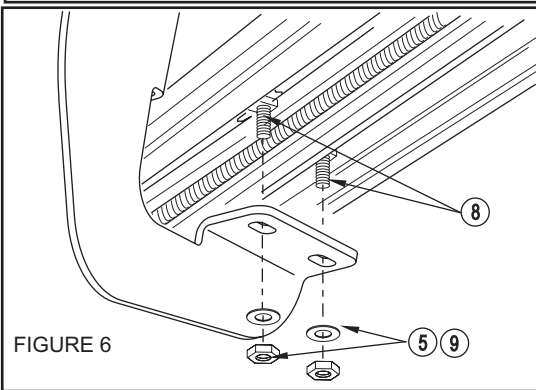

FIGURE 6
STEP 8. Attach board to brackets as shown. Make sure board and brackets are properly aligned and tighten fasteners. Recommended torque values are 10 FT.LBS. for 5/16" square head fasteners and 16 FT.LBS. for 5/16" fasteners. **SEE FIGURE 6.**